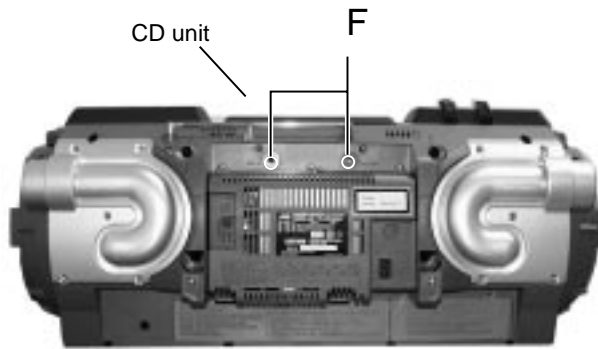

Fig.9
**■ Removing the CD unit (See Fig.9 to 12)**